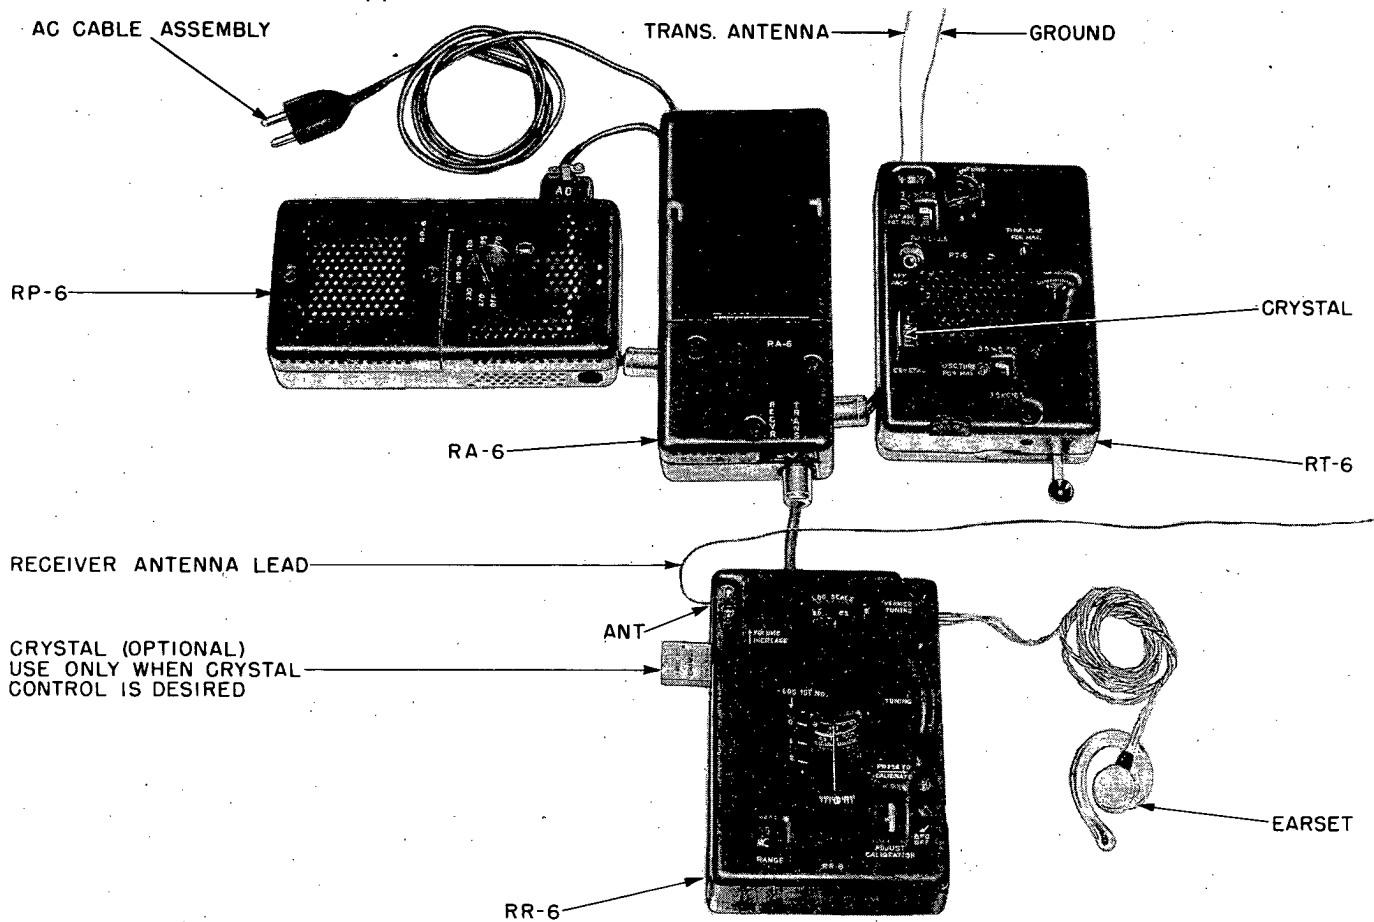

Figure 4. Radio Station RS-6 AC operation hook-up
c. Connect equipment as shown in Figure 4. (Receiver crystal shown is optional).
(1) The Jones plug marked AC must be inserted in the OPERATE receptacle on Power Supply RP-6 before the power plug is connected to an AC power source otherwise "hot" terminals will be exposed and a fuse may be blown.
(2) Connect the two-prong plug of the AC cable assembly to any AC power source whose voltage is between 70 and 270 volts, and frequency between 40 and 400 cycles. The two-prong AC power plug can be adapted to various receptacles in the following ways: